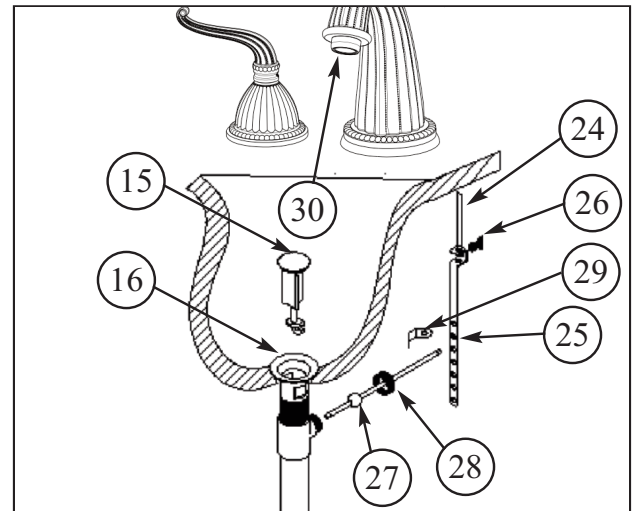

Figure 6
7. Place drain PLUG (15) into FLANGE (16) Insert pop-up ROD (24) through spout and secure to STRAP (25), approximately 1" from end of ROD (24), with SCREW (26). Insert ball ROD (27) into the drain's rod opening, secure with ball rod NUT (28). Adjust the rise of the plunger and CLIP (29) into place. Adjust ball ROD (27) and pop-up ROD (24) so drain will open and close properly. See Figure 6.
8. Remove AERATOR (30) from spout, turn on water supply, and flush both valves until water is clear. Check for leaks and make any final adjustments required. Re-attach AERATOR (30) to the spout.